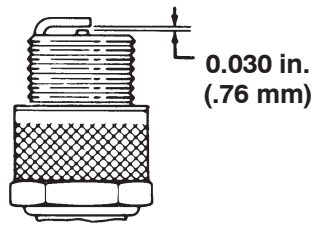

Figure 37
4. Set the air gap between the center and side of the electrodes at 0.030 in. (.76 mm) (Fig. 37) Install the correctly gapped spark plug w/gasket seal, and tighten the plug to 200 in.-lb. (23 N·m). If a torque wrench is not used, tighten the plug firmly.